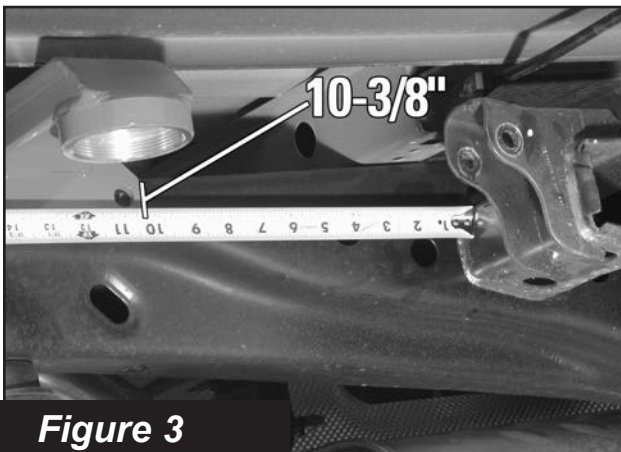

Figure 3
7. Position Cross Tubes 10-3/8 inches behind stock shock mount as shown in **FIGURE 3**.